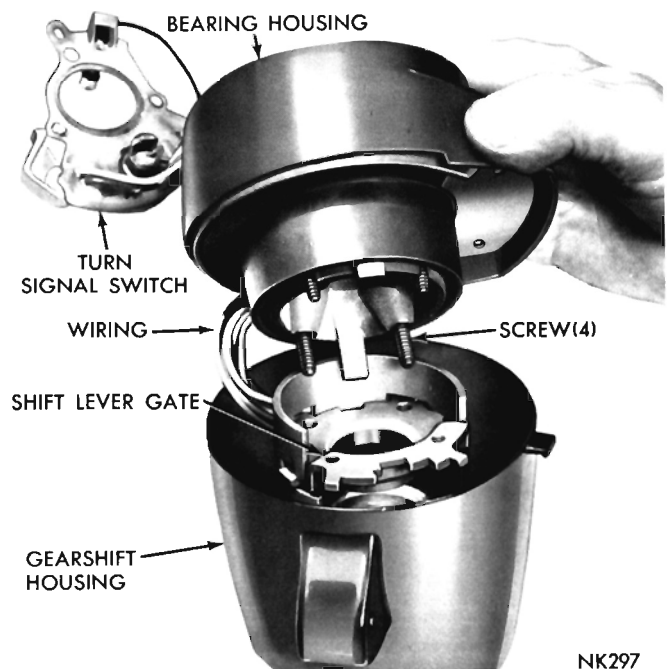
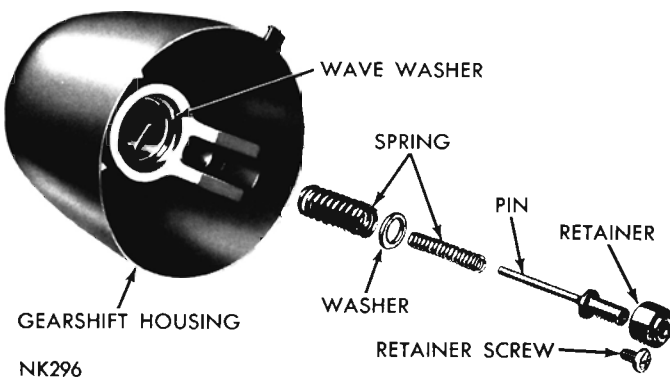

Fig. 13—Disassembling or Assembling Upper End of Column (AR-1, AR-2, AV-1, AV-2 Models)
Fig. 15—Gearshift Housing—Disassembled (AR-1, AR-2, AV-1, AV-2 Models)
(9) Remove the turn signal switch retainer from the bearing housing and lift the switch upward out of the way (Fig. 13 or 14). Remove four screws from inside the bearing housing to separate it from the shift lever gate. Slide the gate out of the column jacket.
(10) Lift the gearshift housing off the column jacket and remove wave washer from the hub counterbore (Fig. 15 or 16). If necessary, remove the shift lever crossover spring load parts (Fig. 15 or 16).
(1) If removed, install the insulator sleeve, column support plate and lower lever seal (boot) on the column jacket before assembling other parts.
(2) Install the shift lever crossover spring load parts in the gearshift housing (Fig. 15 or 16). Be sure all of the parts move freely in the bore, then install the retaining screw. Coat the wave washer with heavy grease and place it in the hub counterbore.
(3) Install the column upper bearing in the bearing housing, make sure the bearing is fully seated in the housing.
(4) With the column jacket held upright, place the gearshift and bearing housings on the jacket. Thread the turn signal switch, horn and indicator lamp wires through the two housings, down into the column jacket and out through the proper opening on the side of the jacket.
(5) Raise the bearing housing and slide the shift lever gate into the upper end of the column jacket (Fig. 13 or 14). Place the four retaining screws in the bearing housing (note the screw lengths (Fig. 13 or 14). Lower the bearing housing and progressively thread the screws into the shift lever gate, then tighten the screws securely.
(6) Slide the spacer and felt washer on the gearshift tube. Install the coil spring (**closed coil end first**) on the upper end of the gearshift tube. Slide the tube assembly into the column, making sure the spring will